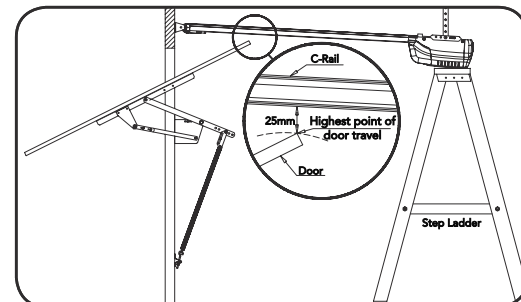

Fig. 17
- Stop the door when it is at its highest point of travel. Allow 25mm additional height for clearance between the door and the track (Fig. 17).